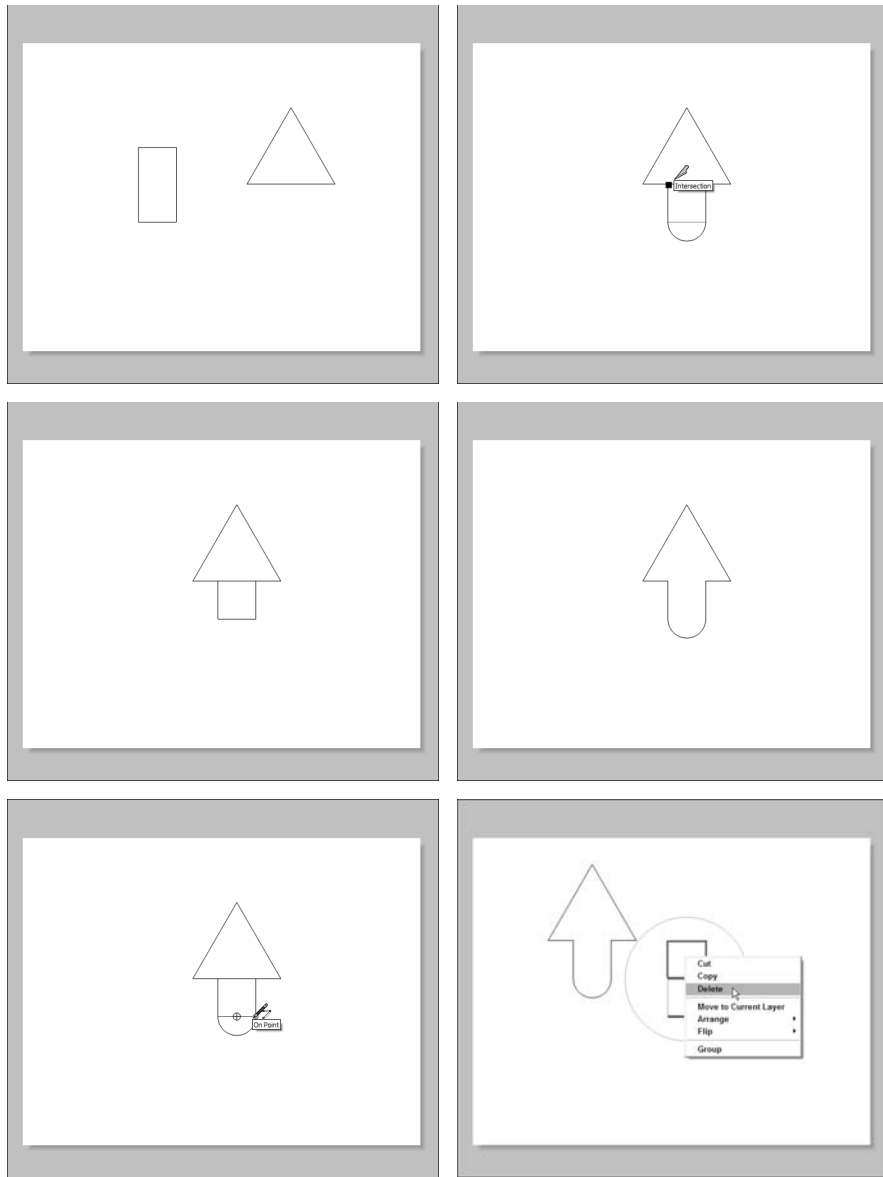

Figure 15-12:
- ✓ **Build complex shapes out of simpler ones.** I'll use an example here: Figure 15-12 shows how I would draw a simple arrow. You can follow these steps to build one just like it: